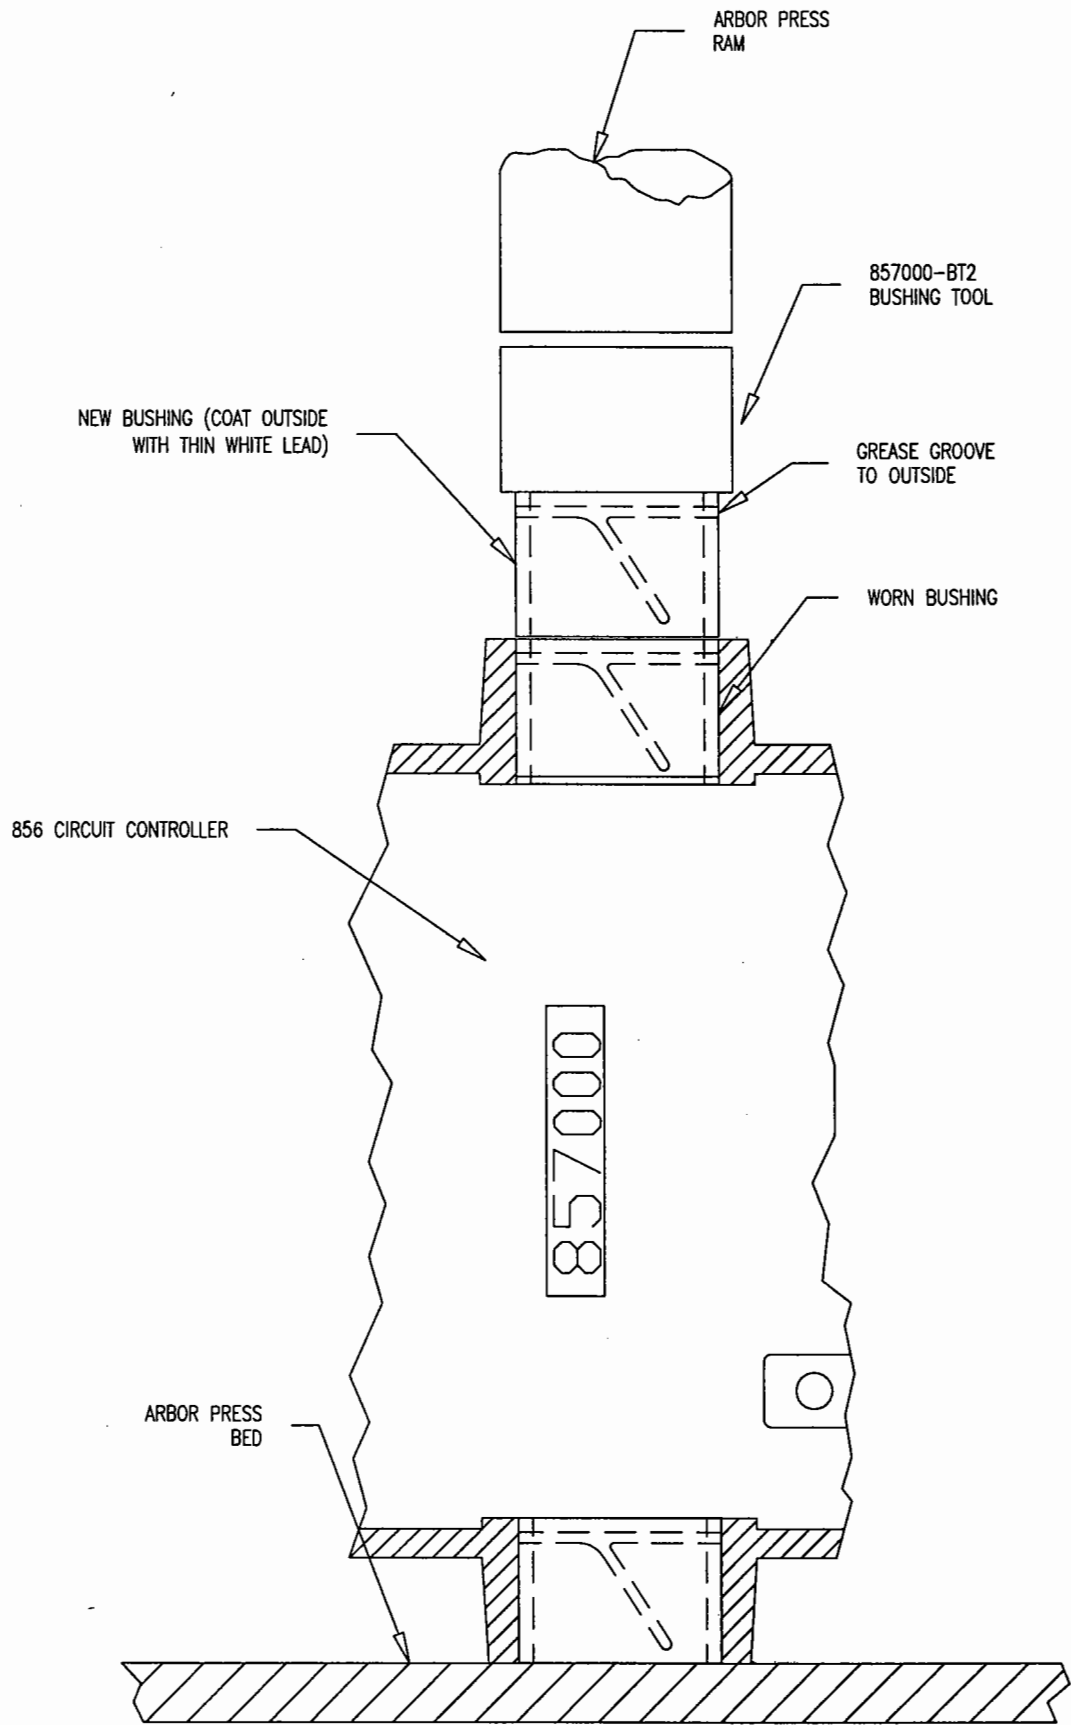

FIGURE 5-1
- A. Remove the bolts (66), nuts (67), and lock washers (68) from the collar and crank. Remove the collar and crank.
- B. Loosen the clamp screws (38) on all of the cams.
- C. Remove the adjusting screws (36), nuts (37), and cotter pin (32) from cams.
- F. Place the 856 switch circuit controller on an arbor press bed as illustrated in Figure 5-1.
- G. Place the new bushing over the worn bushing being replaced as illustrated in Figure 5-1.
- H. Place a cold rolled steel bushing tool (857000-BT2) on the new bushing as illustrated in Figure 5-1. Tool dimensions are 2 ½" x 1.498 I.D. x 2" O.D.